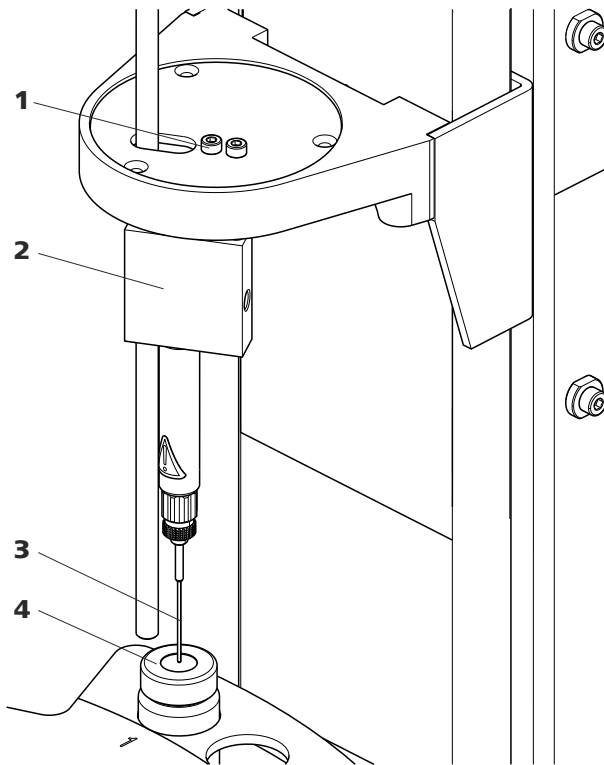

Figure 1: Sample vial and needle in alignment position
- Use the lift to position the needle (1-3) approx. 3 mm above the sample vial (see Figure 1, page 2).